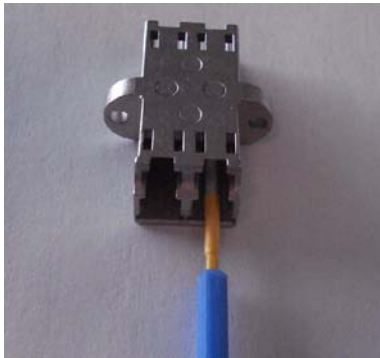

Figure 4
6. Inspect the ceramic coupling sleeve inside the coupler device (magnification is not necessary). See Figure 4. If any dust or other contaminant is visible, clean each side of the coupler device.